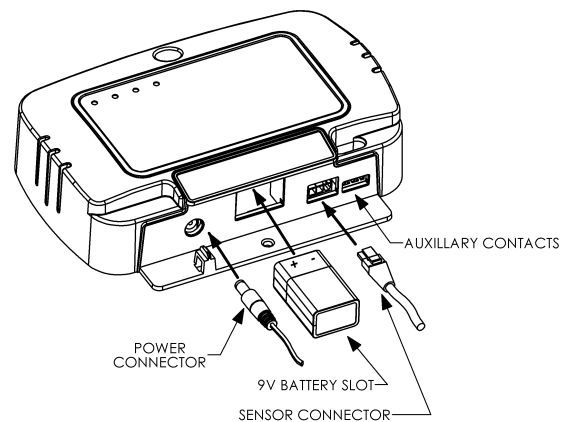

Figure 3
- 4) Route the sensor cable out of the sump pit and connect it to the bottom of the alarm enclosure. See **Figure 3**.
- 4) Route the sensor cable out of the sewage pit and connect it to the bottom of the alarm enclosure ensuring it does not interfere with the operation of the primary pump's float. See **Figure 3**.
- 1) Connect the supplied power adapter to the alarm unit as shown in Figure 3. Plug the power adapter into the wall receptacle and verify that the green "power" indicator illuminates.
- 2) Install the 9V battery as shown in **Figure 3 (previous page)**. Paying attention to polarity, the battery should gently push into place and latch on the ledge at the bottom of the battery chamber.